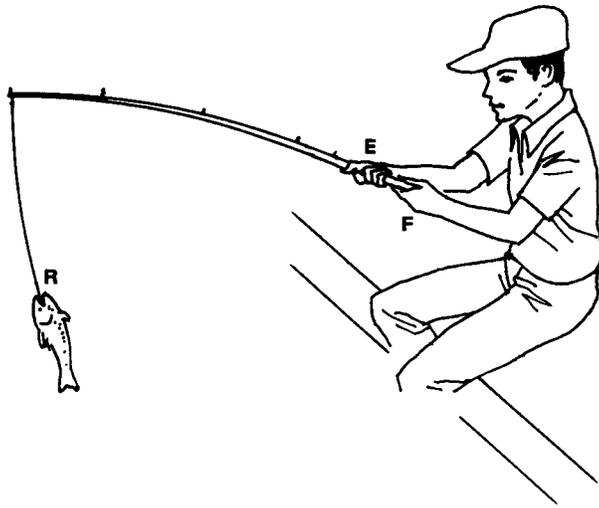

Figure 6-28
The fisherman in Fig. 6-28 must apply a *greater* force (E) to the rod than the weight of the fish (R). However, he can move the fish through a much greater distance than he moves the rod. Therefore, he gains distance and speed at the expense of force. The mechanical advantage of the fishing rod as a machine in this case is less than 1.